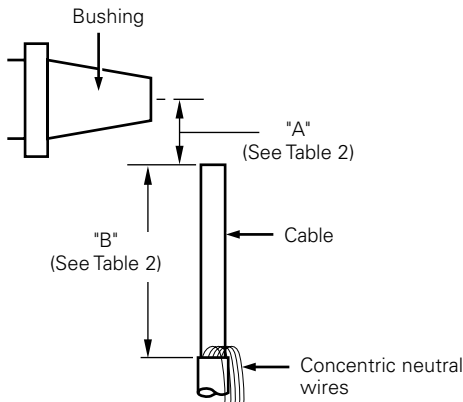

Figure 4. Line illustration of removing concentric neutral wires.
- Measure reference length "B" from end of cable. (Refer to Figure 4 and Table 2 to determine variable "B" length.)
- For unjacketed neutral cable, bind neutral wires using three (3) wraps of tape at "B" dimension.